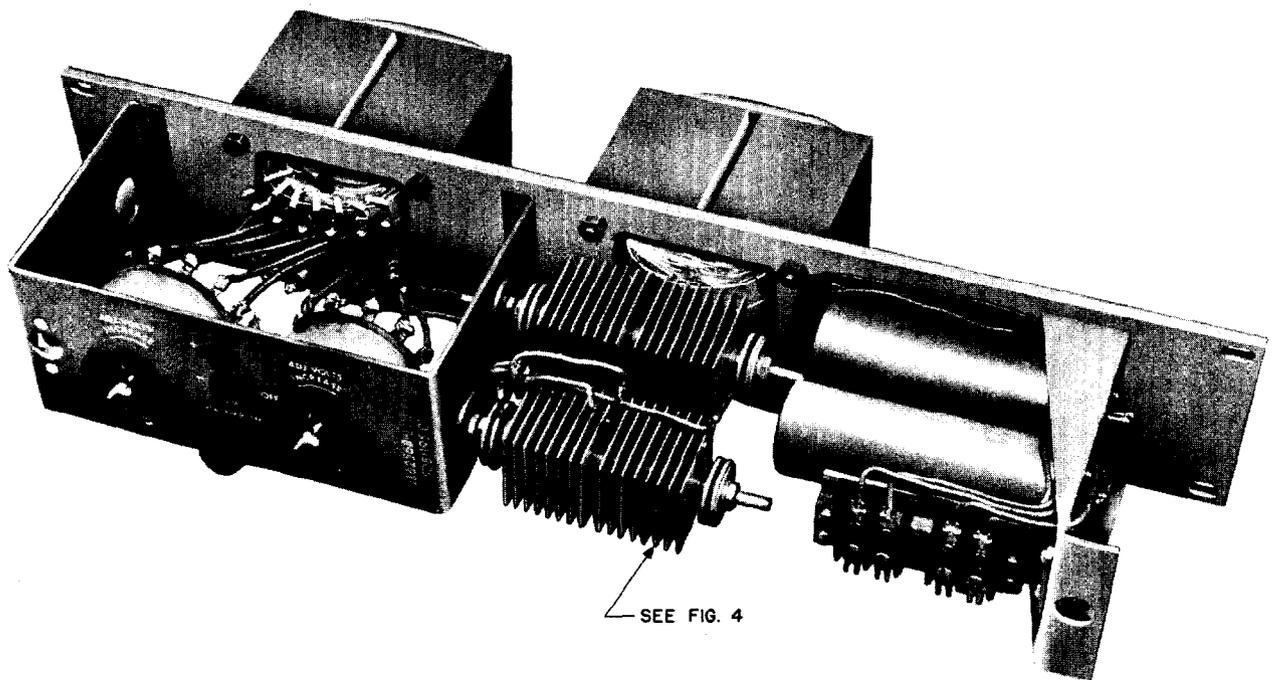
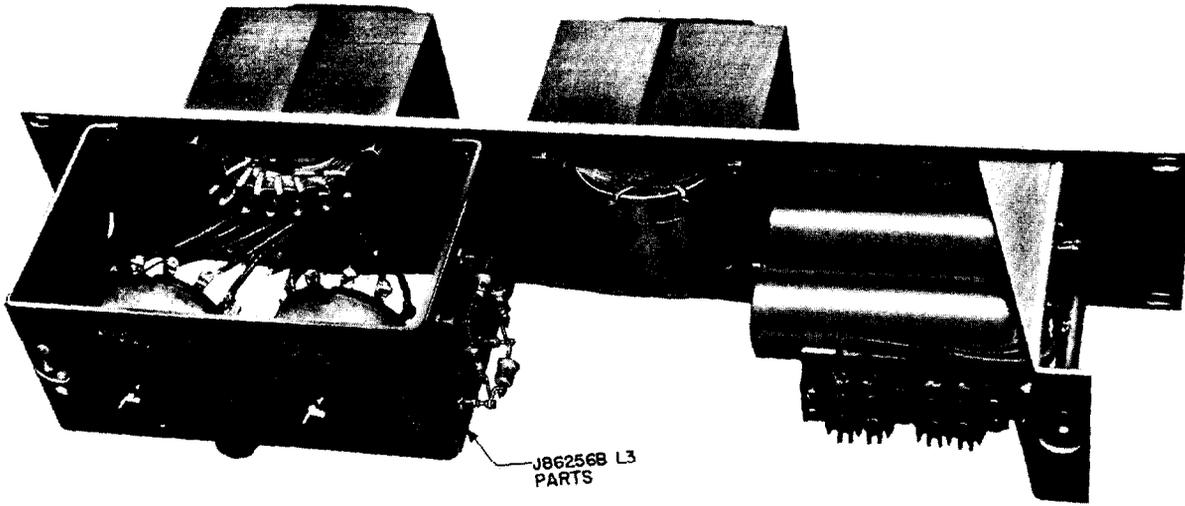

Fig. 3 - J86256B, L1 Rectifier (Showing Rectifier Stacks)
Fig. 4 - J86256B, L1 Rectifier (Showing Rectifier Stacks Replaced With J86256B, L3 Apparatus Assembly)
3.07 Defective rectifier stacks in **J86256B, L1 rectifiers** (see Fig. 3) shall be replaced with the J86256B, L3 apparatus assembly (diode replacement parts) (see Fig. 4), making use of the rectifier stack mounting holes.